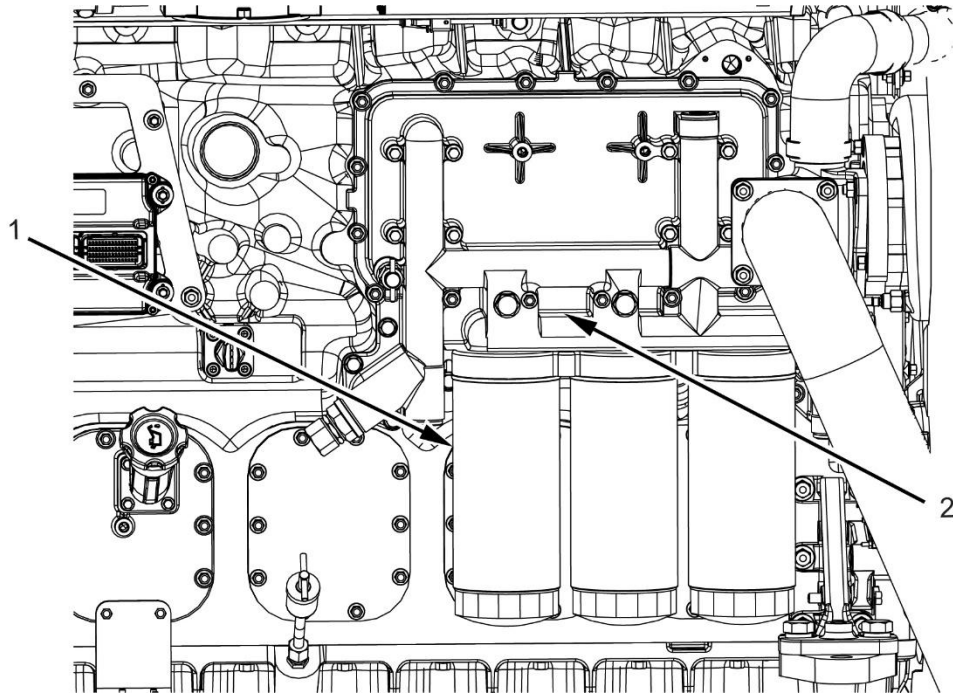

Figure 137. Engine Oil Filter Assembly
1. Separate the oil filters (Figure 137, Item 1) from the oil filter seat (Figure 137, Item 2).